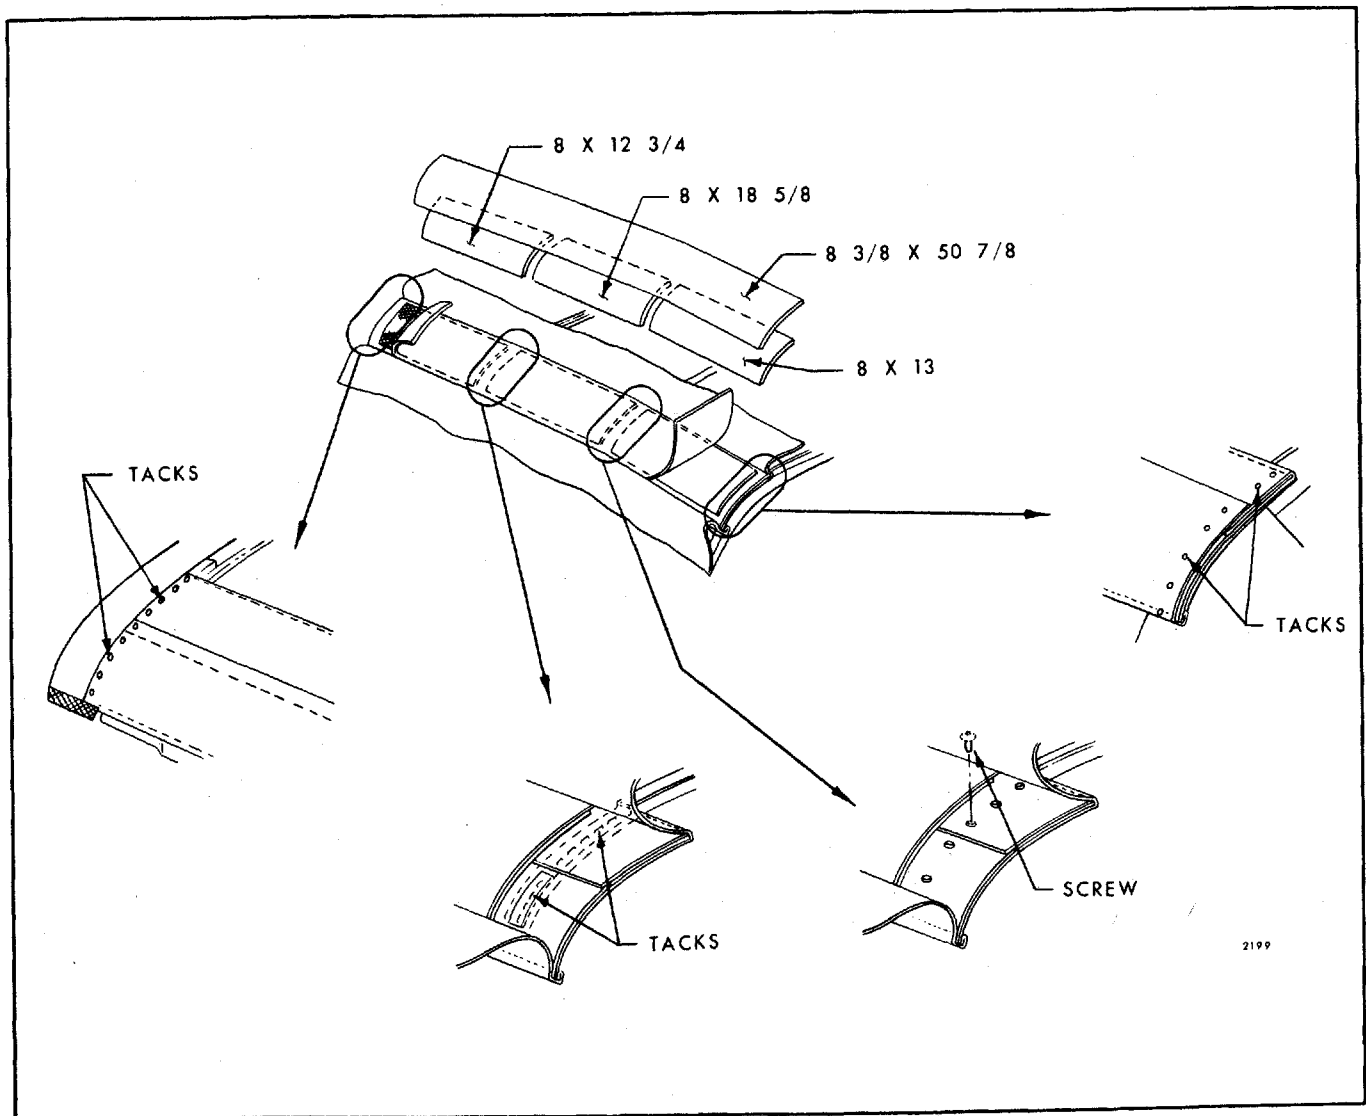
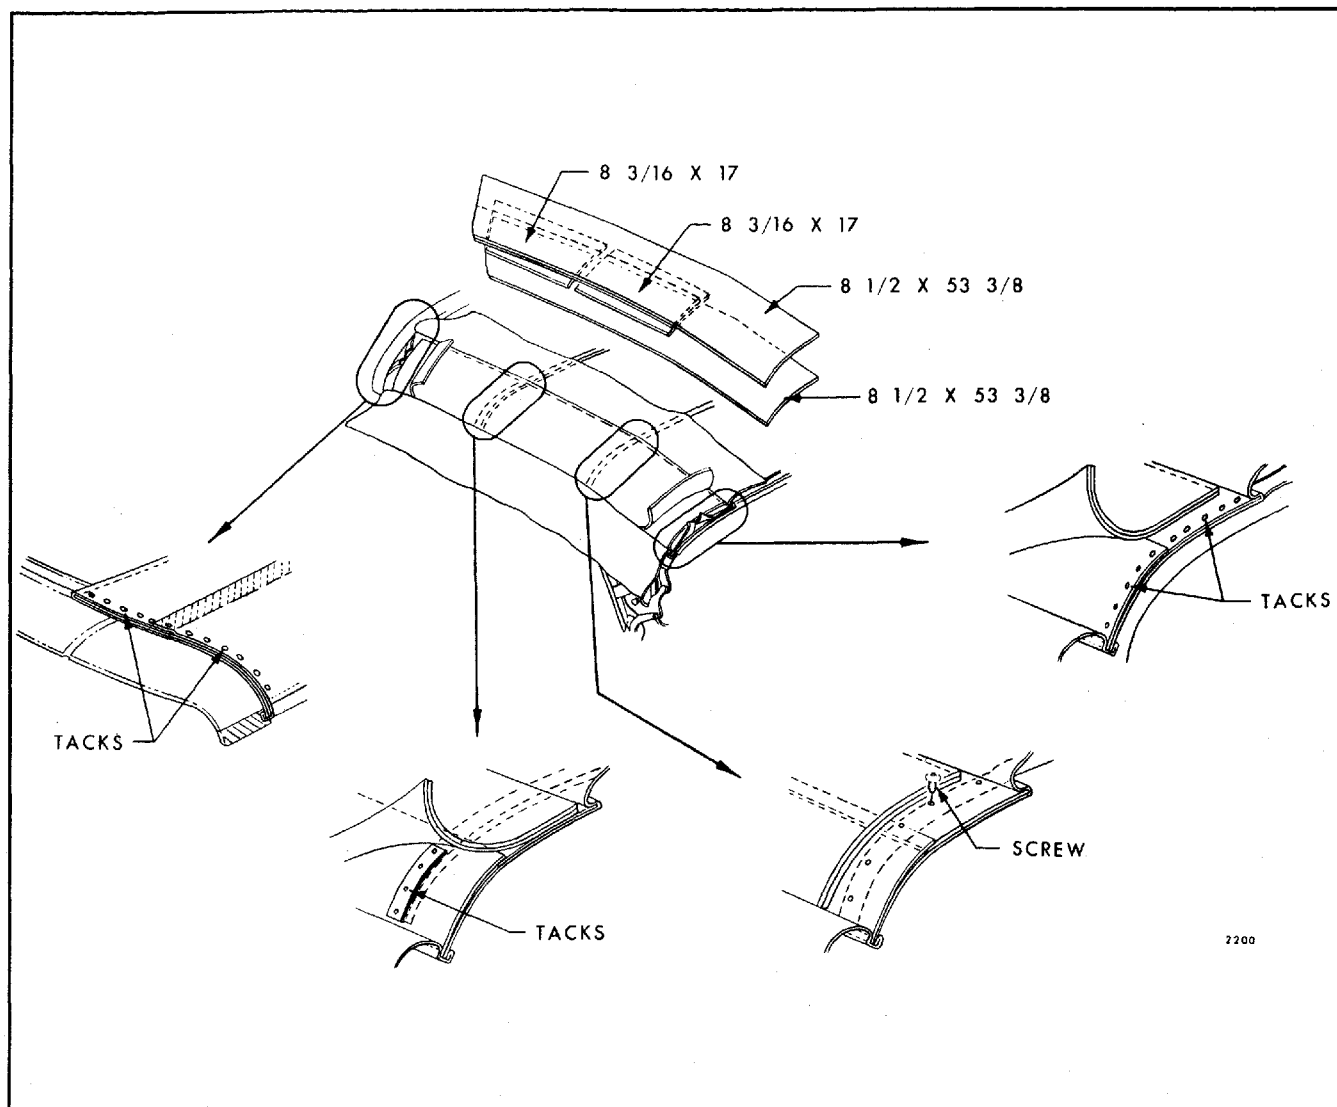
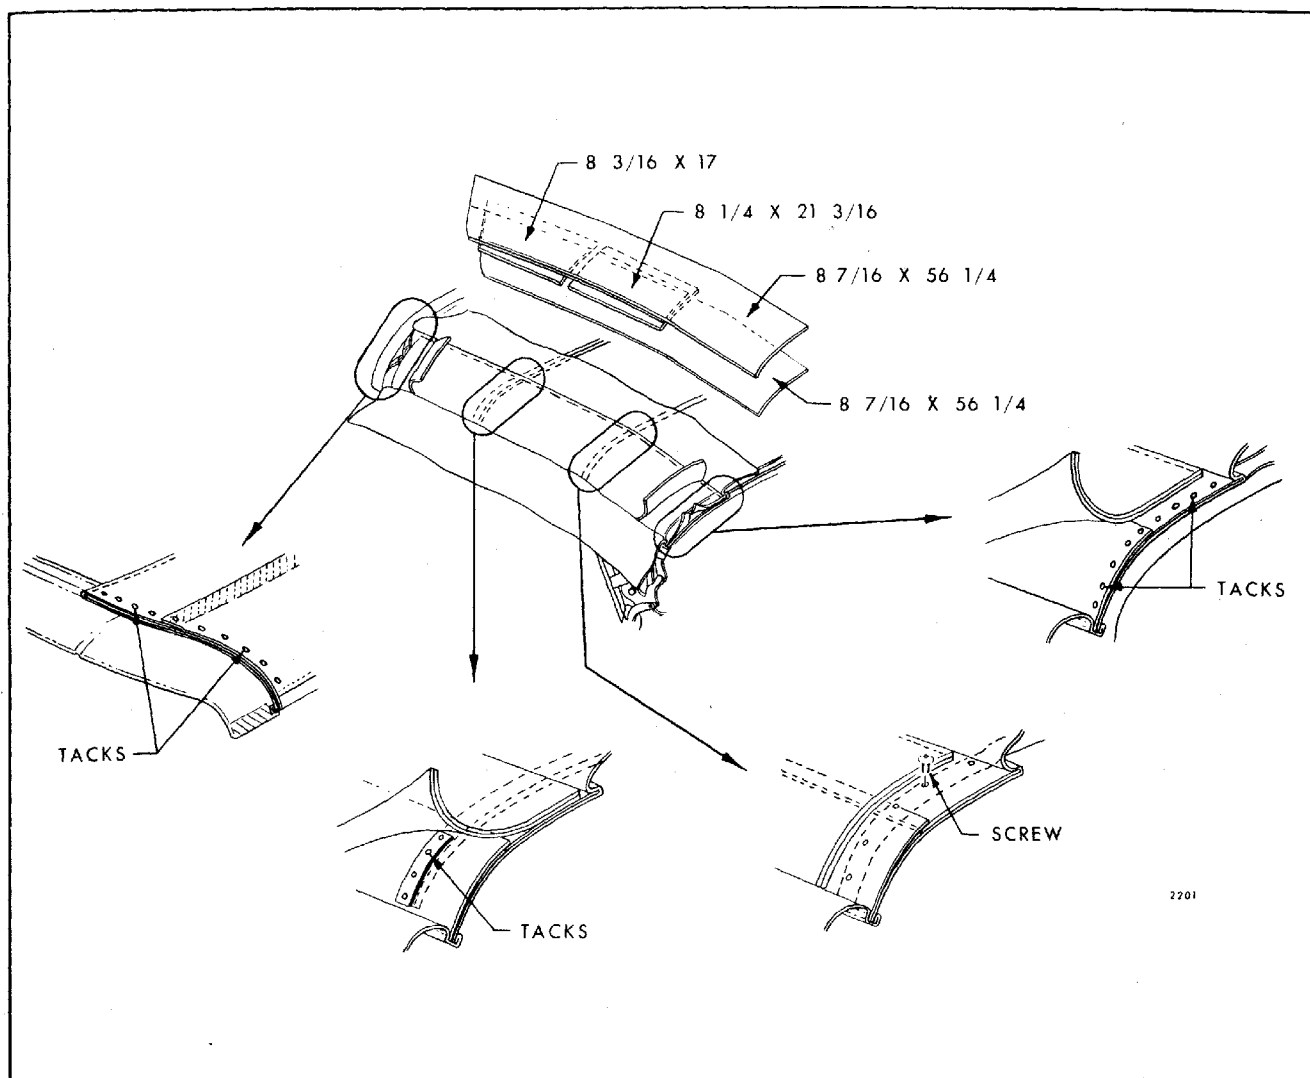
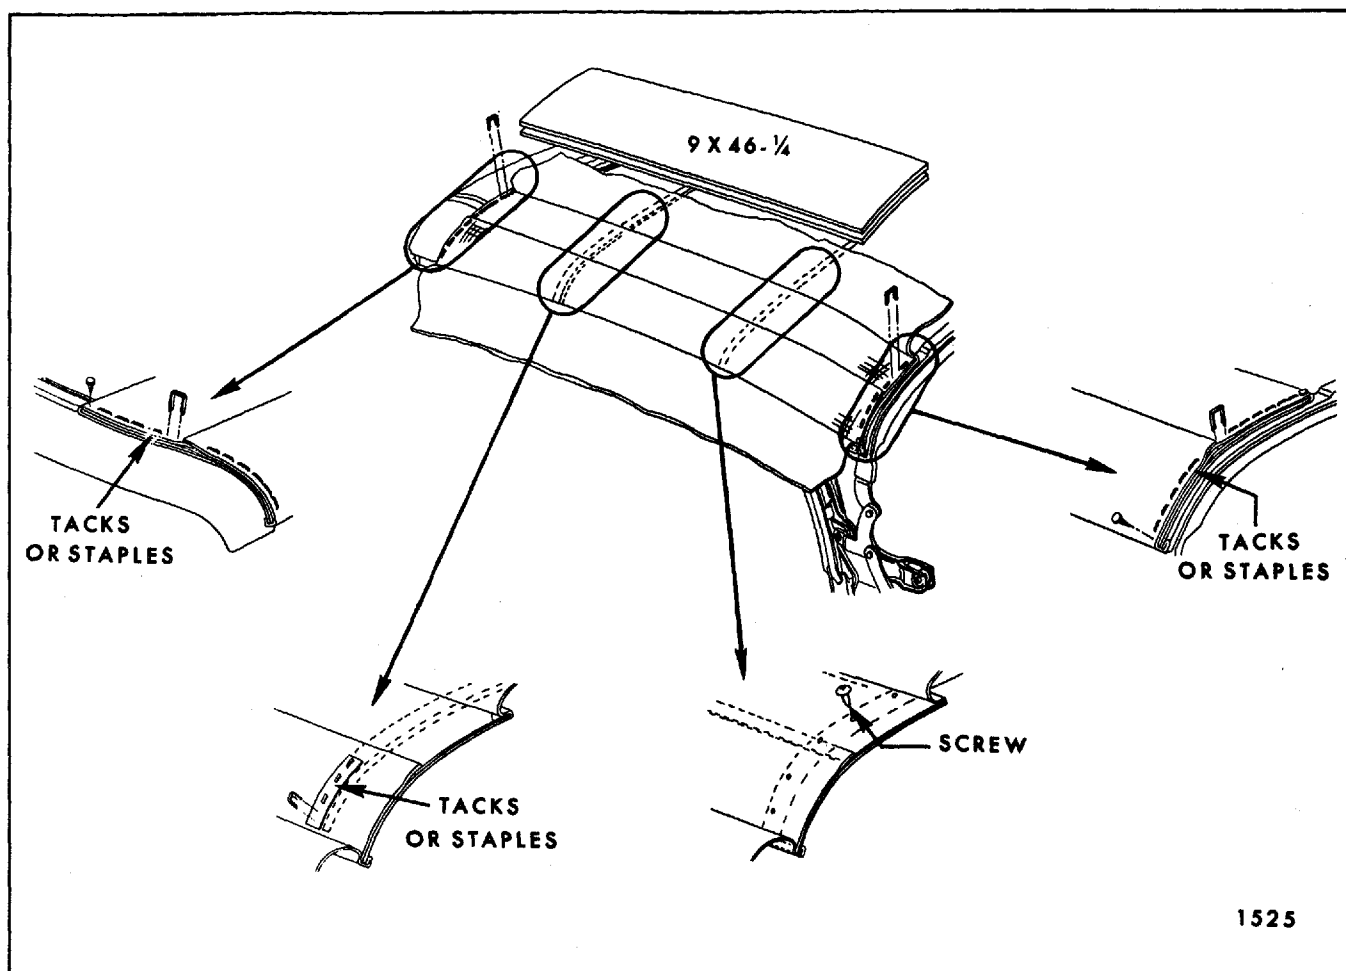

Fig. 6-13—"A". Body Side Stay Pad Installation
Fig. 6-14—"B" Body Side Stay Pad Installation
Fig. 6-15—"C" Body Side Stay Pad Installation
Fig. 6-16—"Z" Body Side Stay Pad Installation
2. Tack side stay pads in conventional manner to rear roof bow and stay tack pads to front roof rail. Make sure inboard edge of pad is properly aligned within depressions in bow and rail. Stay tack pad to front bow. Install pad to center bow with screws. Make sure inboard edge of pad is properly aligned within depression in bow. Install stay pad wadding in conventional manner using an approved trim cement. (Fig. 6-13 for "A" Body, Fig. 6-14 for "B" Body, Fig. 6-15 for "C" Body and Fig. 6-16 for "Z" Body.)
3. Trim salvage end of side stay pads just forward of rear rolled edge of rear roof bow (Fig. 6-13 for "A" Body, Fig. 6-14 for "B" Body, Fig. 6-15 for "C" Body and Fig. 6-16 for "Z" Body).